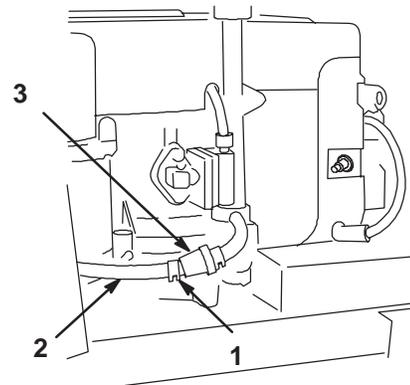

Figure 32
4. Squeeze the ends of the hose clamp together and slide it up the fuel line toward the fuel tank (Fig. 32).
5. Pull the fuel line off the filter (Fig. 32). Open fuel shut-off valve and allow gasoline to drain into an approved gas can.